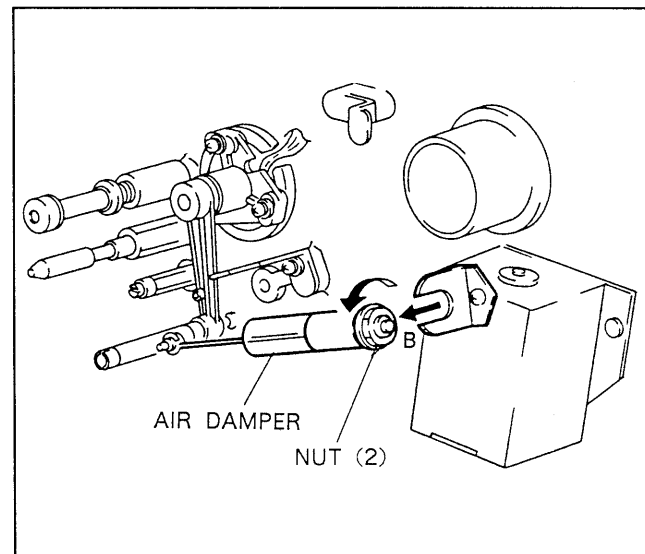

Fig. 6-20-2. Air Damper Removal (2)
3. Loosen the nut (2) and remove the air damper in the direction of arrow B as shown in Fig. 6-20-2. (Opposite side : 12.5 mm)